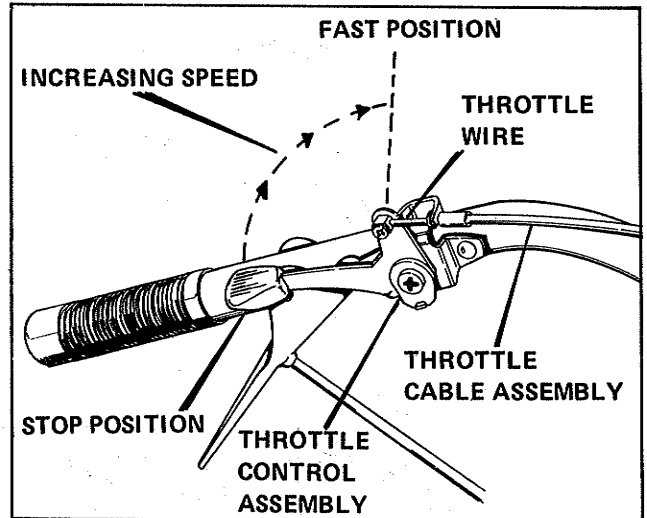

Figure 11.
- a. See Figure 11. Move throttle control lever down to STOP position. Be sure throttle wire is securely attached to throttle arm.
- a. **THROTTLE LEVER.** Used to adjust engine speed or to stop engine. See Figure 11 for throttle lever positioning.
a. See Figure 11. Move throttle lever halfway forward.
See Figure 11. Move the throttle lever to the STOP position.